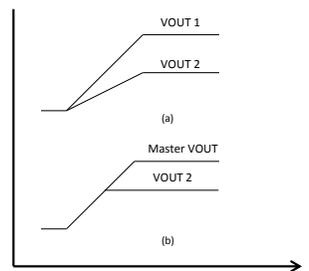

Figure 5 - PI33XX-X0 tracking methods
There is typically either proportional or direct tracking implemented within a design. For proportional tracking between several regulators at startup, simply connect all PI33XX-X0 device TRK pins together. This type of tracking will force all connected regulators to startup and reach regulation at the same time (see Figure 5 (a)).
All connected PI33XX-X0 regulator soft-start slopes will track with this method. Direct tracking timing is demonstrated in Figure 5 (b). All tracking regulators should have their Enable (EN) pins connected together to work properly.